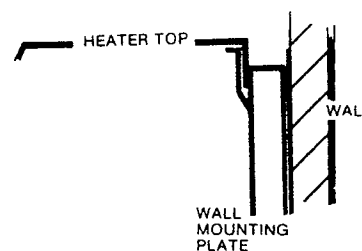

FIG. 5. WALL HANGING
STEP 5. Hang the heater on the upper mounting plate. Make sure the back lip on the heater top is properly located over the top edge of the mounting plate. (Figure 5)